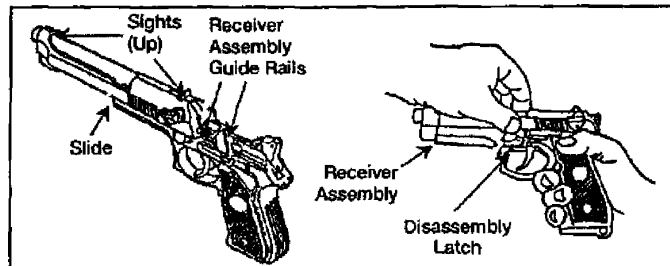

Figure 071-004-0001-8. Final assembly
g. Push until the rear of the slide is a short distance beyond the rear of the receiver assembly and hold. At the same time, rotate the disassembly latch lever upward. A click indicates a positive lock (figure 071-004-0001-8).
(1) Insert the follower into the top coil of the magazine spring. Make sure the notches on the follower and magazine tube are on the same side.